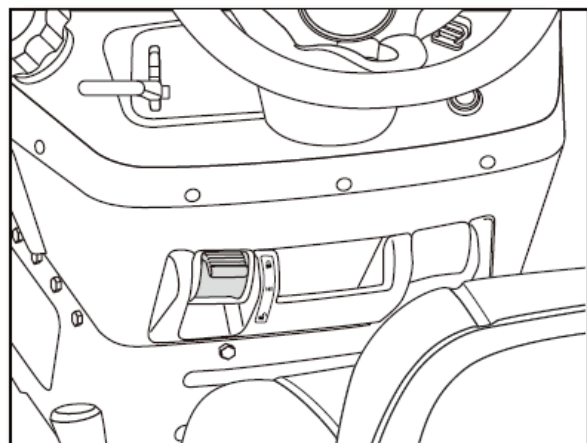

Fig.18
2. Raise the parking brake lever all the way up into the lock position.(Fig.18)